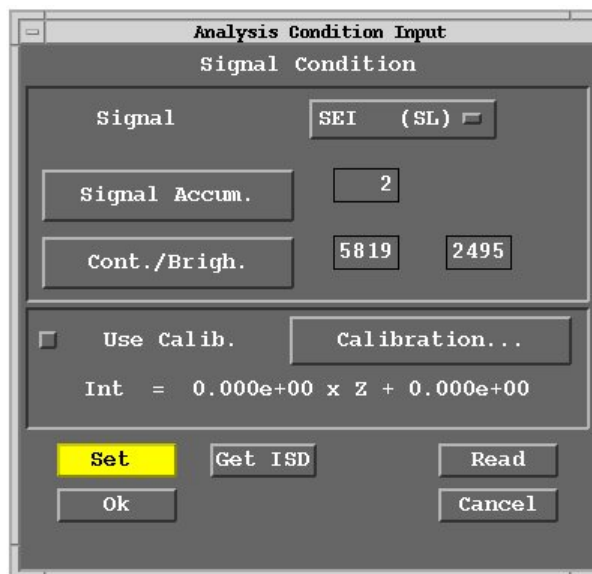

Fig. 8.5 “Signal Condition” window
Click on the “Signal Condition” button in the “Particle Analysis Condition Input” window, and the “Signal Condition” window will be displayed as shown in Fig. 8.5.
- Accumulation:** The number of images to accumulate, which was specified in the “Signal Accum.” input box in the “Signal Condition” window shown in Fig. 8.5., is displayed here.